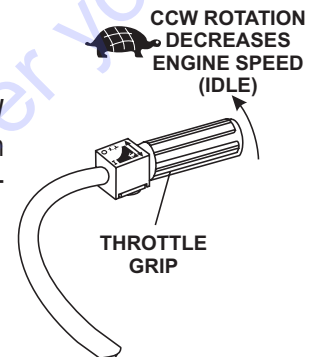

Figure 13. Throttle Grip (Idle/Turtle Position)
6. Turn the **throttle grip** CCW to the "TURTLE" position (Figure 13) to start the engine in the idle mode.